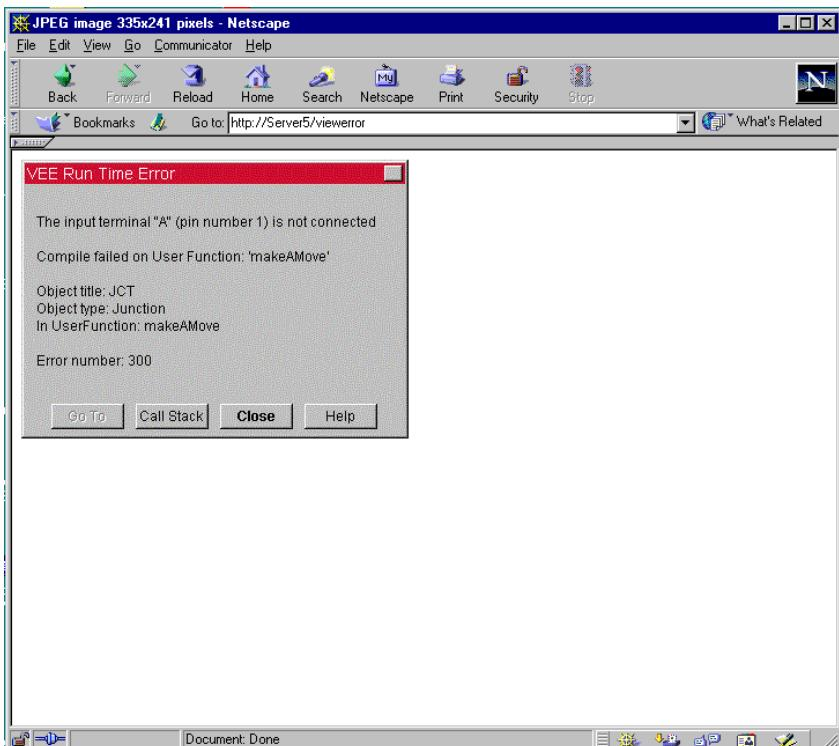

Figure 12-9. Displaying a VEE Error Message, using the Browser
5. The remote user clicks **Back** in the browser to display the VEE Web Server Home Page and chooses **Last Error Message**. The browser displays the error message shown in Figure 12-9.